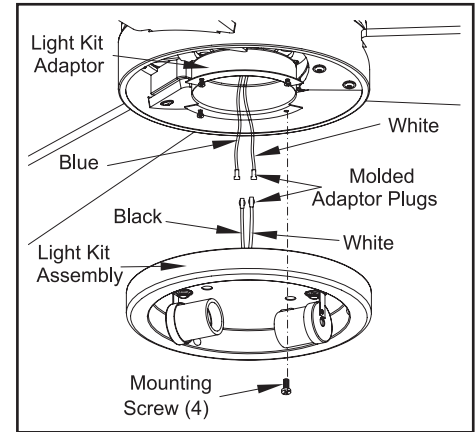

Figure 11
1. Loosen but do not remove three of four mounting screws from the light kit adaptor below the fan motor assembly; remove one mounting screw. (Figure 11)